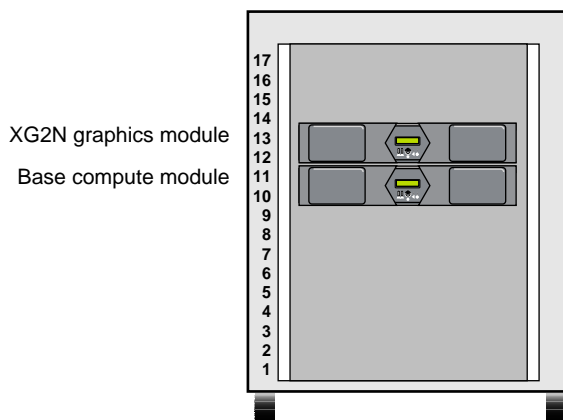
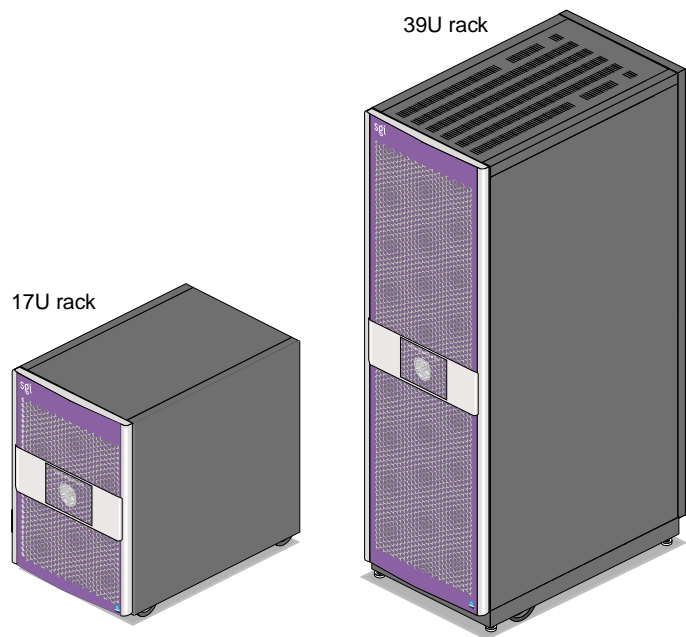

Figure 2-14 Unit Numbering Within Racks
Figure 2-17 Front Views of Short and Tall Racks
The system is offered in two rack types: a short rack and a tall rack. The racks are measured in standard units (U); one U is equal to 1.75 in. (4.45 cm). The short rack is a 17U rack (see Figure 2-14). The tall rack is a 39U rack, see Figure 2-17 on page 46 for an example.
The components within the rack are identified by the lowest U number that they occupy. For example, the top (XG2N) module shown in Figure 2-14 is identified as U12 in the short rack.
Both rack types, as shown in Figure 2-17, have front and rear doors that have keylocks to prevent unauthorized access to the system. The racks also have cable entry/exit areas at the bottom of the racks. The 39U racks have cable management hardware in the rear.